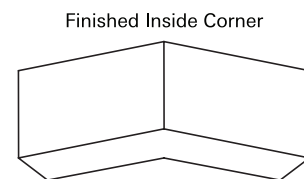

Figure 7
8. Apply adhesive and install (Figure 7).